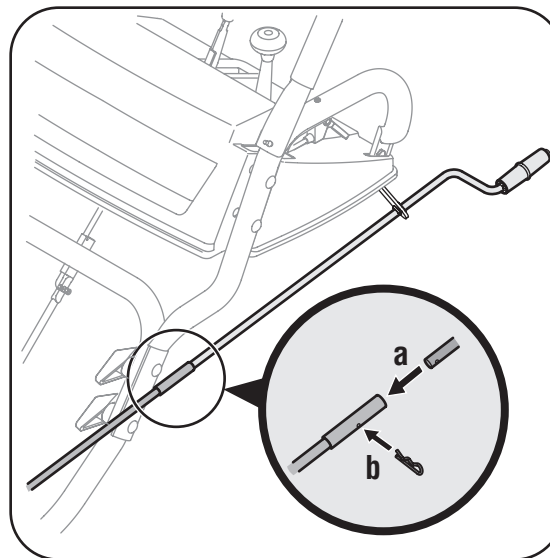

Figure 3
- Remove the hairpin clip from the upper chute crank and slide the upper chute crank into the lower chute crank. A pair of pliers may help in this job. See Figure 3.
- a. Align the two holes on both chute cranks. See Figure 3.